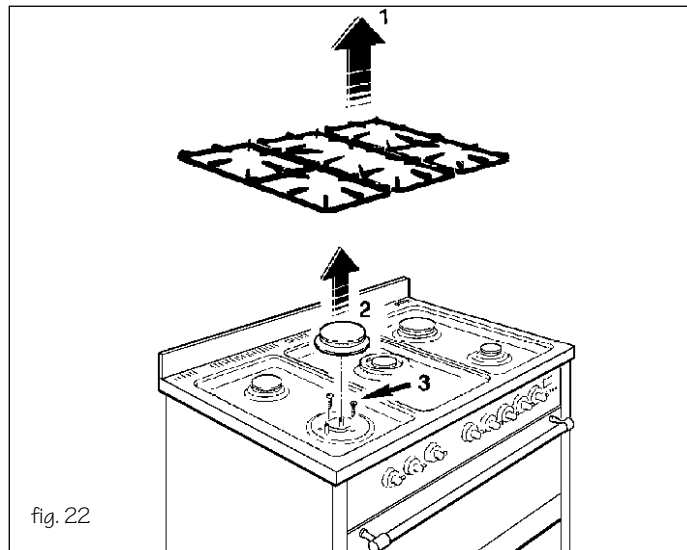

fig. 22
Before starting any servicing operations on a cooker, it must be unplugged or switched off at the mains supply. If work is to be carried out on the electrical or gas components underneath the hob (e.g. switches, thermostat taps, etc.) follow the order shown in Fig. 22.
- 2) remove the burners and unscrew the screws as shown in Fig. 22.
- remove the hob following the sequence of instructions in Fig. 22 - 23 - 24
- Remove the hob and the control panel following the sequence of instructions in Fig. 22 - 23 - 24.
- To replace these accessories, remove the hob following the sequence of instructions in Fig. 22 - 23 - 24